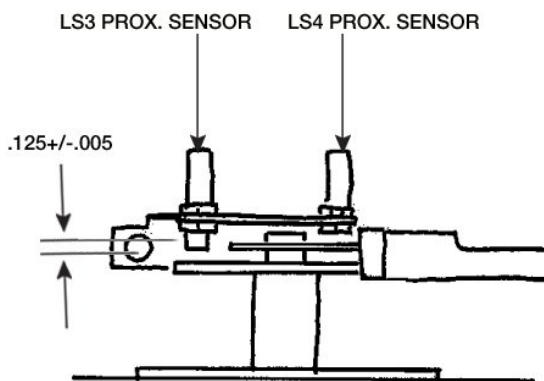

Figure 8
5. **LS3 Adjustment:** Rotate the teeter lever counter clockwise to place teeter lever tab below LS3 proximity sensor. Adjust gap between sensor and bracket to $.125+/-0.005$ See Figure 8. Power up prox. Sensor. Slowly rotate teeter lever clockwise, away from the fully open position. Observe sensor's LED light. It should turn off. Rotate teeter lever counter clockwise to approx. 85 deg. from closed position and adjust LS3 sensor bracket, so proximity sensor just actuates. Secure this adjustment. Torque down lock nuts to 7 FT.-Lbs and witness mark.
6. **LS4 Adjustment (If Equipped):** With the teeter lever in closed position, adjust gap between prox. Sensor and vane to $.125 +/- .005$ See Fig. 8. Power up prox. sensor. LED light should turn "ON" when sensor is above the teeter lever tab. Rotate teeter lever 5 – 10 deg. counter clockwise. Sensor LED light should turn "OFF". Secure this adjustment and witness mark.